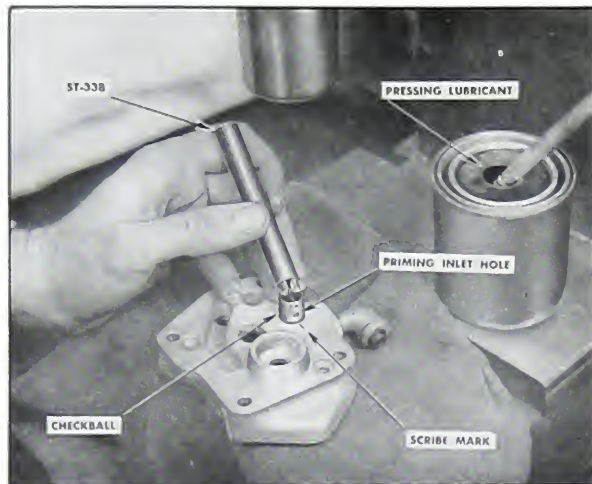

Fig. 5-289. Replace No. 2 check ball
4. Before assembling the check ball to the No. 2 cover, make a pencil mark to locate the position of priming inlet hole. Use ST-338 mandrel press in until snug against bottom of No. 2 cover. Check to see that the priming inlet is open. Fig. 5-289.